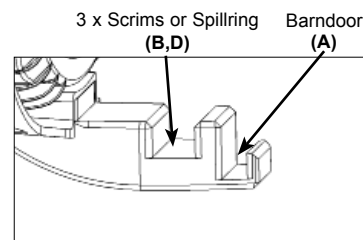

Abb. 5 / figure 5
- Hinterer Einschub: Drop-In Linse (C)
- Mittlerer Einschub: 3x Scrim (B)
- Vorderer Einschub: Flügelort (A)**M 40 (Abb. 5):**
- Vorderer Einschub: Flügelort (A)
- back insertion: Drop-in lens (C)
- middle insertion: 3x scrim (B)
- front insertion: barndoor (A)**M 40 (figure 5):**
- front insertion: barndoor (A)